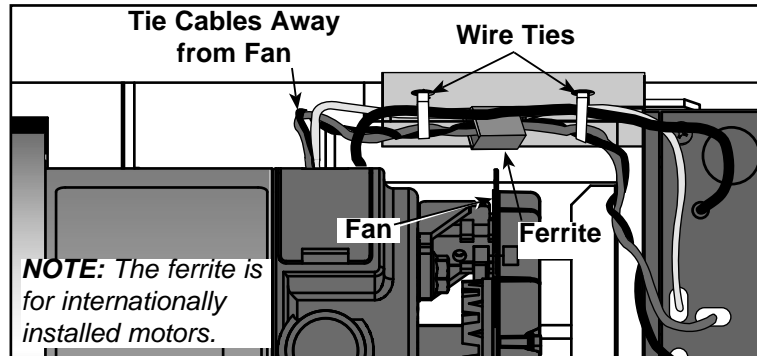

Figure 17
- C. Using wire ties, tie the motor cable to the base so that no wires get pinched. See Figure 17. **NOTE:** Be sure that the wires are tied away from the fan and running belt. For internationally installed treadmills only, place the ferrite (shown in Figure 17) in between the wire ties.